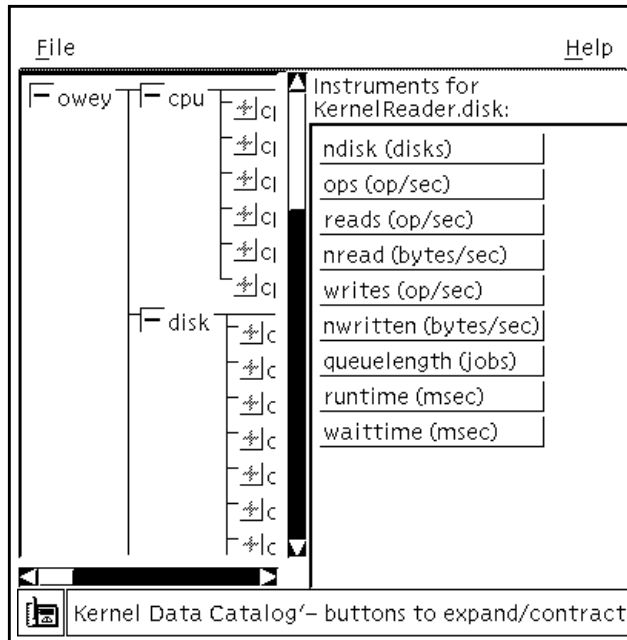

FIGURE 3-18 Kernel Data Catalog Console
The Kernel Data Catalog console displays the system performance parameters (see FIGURE 3-18). These parameters are displayed as *instruments* within the instrument panel of the Kernel Data Catalog. When you click the text of a component, a menu of available parameters (instruments) for that component is displayed in the instrument panel.
3. Display the instrument by clicking the instrument (parameter) you want displayed. For example, `ops (op/sec)`, at the right of the display (see FIGURE 3-18).